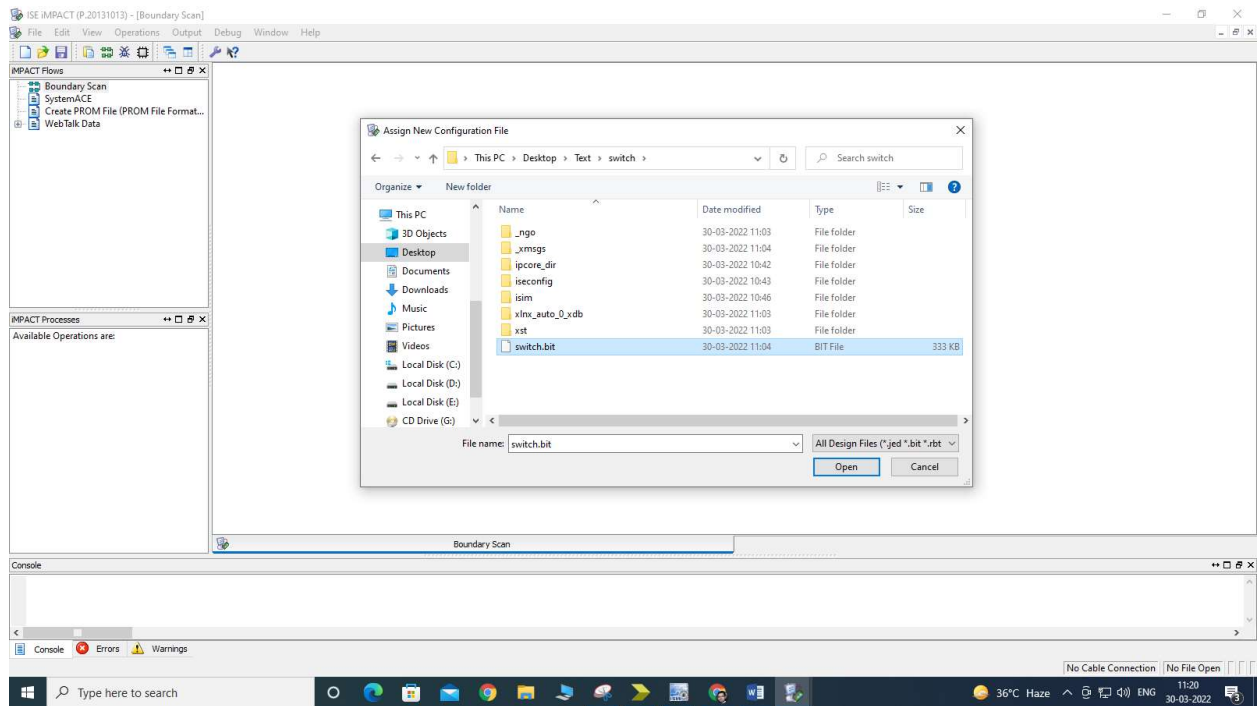

Fig 1.34
38. Click on add Xilinx device then go to file location **select switch.bit** file and click open.(Fig 1.34)